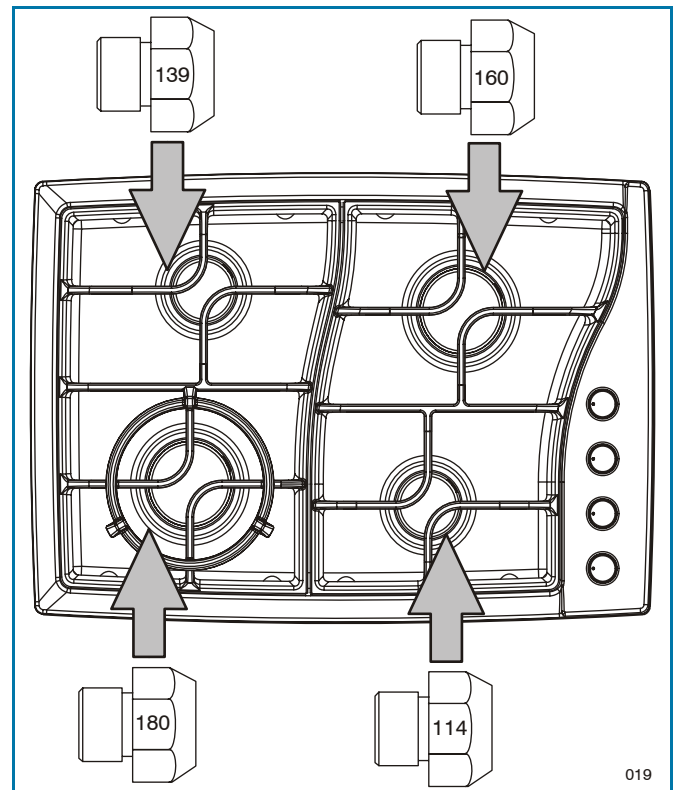

Figure 20. 4 burner Model (30" wide) – NG conversion
1. **REPLACE ALL LP INJECTORS** with NG injectors following the steps described on previous page, observe the number stamped on the side, this number codes the orifice diameter and its correct burner location see figure 20 (save the injectors removed from the appliances for future use).